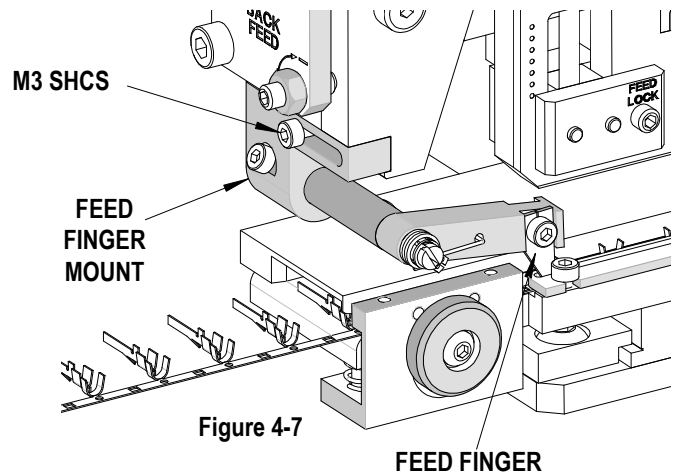

Figure 4-7
3. Using a 2.5mm hex wrench, loosen the M3 socket head cap screw located on the slotted hole of the feed finger mount. While raising the feed finger slightly, slide the feed finger to the desired position. See Figure 4-7.